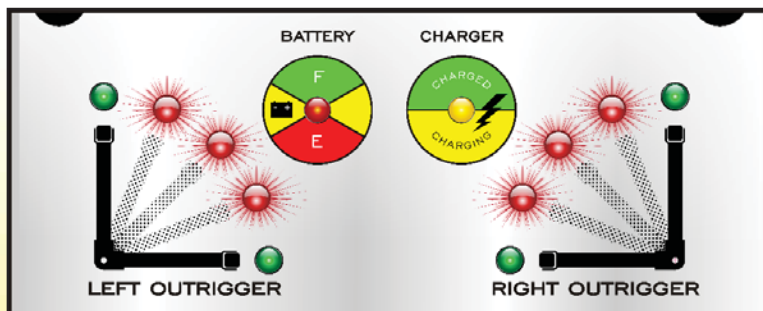

Figure 18 Service Mode LED Indicators
**Service Mode/ LED indication** – The UniLift operates using a series of switching and coordinating movements. The UniLift control system is programmed to enter Service Mode in the event the UniLift's program sequence has been compromised. In the event the UniLift enters Service Mode, all six (6) red LEDs inside the arc of the right and left banks will illuminated continuously as shown in Figure 18. The UniLift will not operate in Service Mode. Remove the UniLift from service and have a qualified technician troubleshoot and perform service. Contact Bishamon Industries for assistance in troubleshooting and service.
**UniLift Control System/Battery Life Lockout** – The UniLift control system has lockouts to prevent battery damage in the event that the batteries are very weak and an operator continues to use the UniLift to raise load. After the "Battery" LED on the console glows red for 30 minutes the control system will enter the first of two lockouts. The first lockout will disable the UP button so that the UniLift can only be lowered and not raised. This is so the operator can set the load down and go charge the UniLift. If the UniLift continues to be used and another 30 minutes goes by, the UniLift controls will be completely locked out. The batteries are now completely dead. This second lockout will glow the middle LED in the center of the LED arc on the left and right side of the console (two places) at the same time as shown in figure 18.